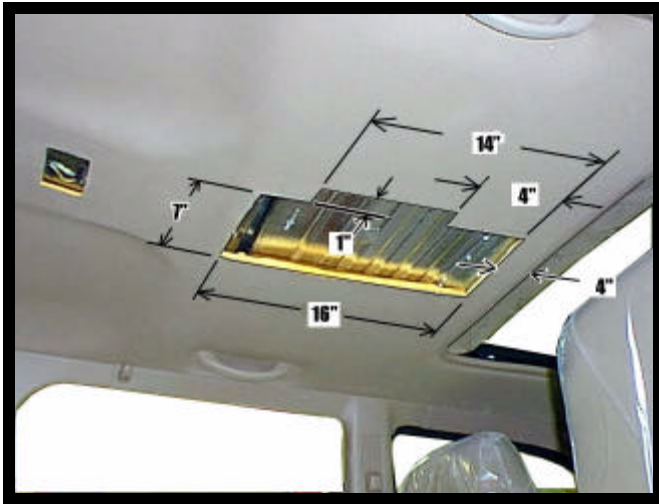

FIGURE 1
1. Using the rear edge of O.E. sunroof opening as a reference location, carefully measure & trim headliner as shown. **Caution: Before cutting headliner material, check for wiring or other componentry above headliner. Cut only where indicated.** Make sure that the 7" cut is centered left to right in vehicle. See Figure 1. **DO NOT OVERCUT HEADLINER.**